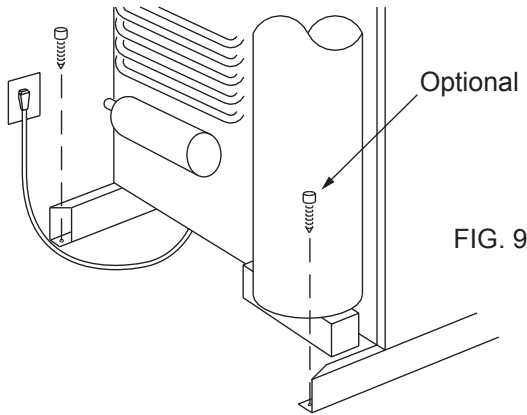

FIG. 9
- One screw installed in the rear base, see fig. 9. The screw shown on the burner side is an option. It is not required to properly secure the refrigerator in the enclosure.